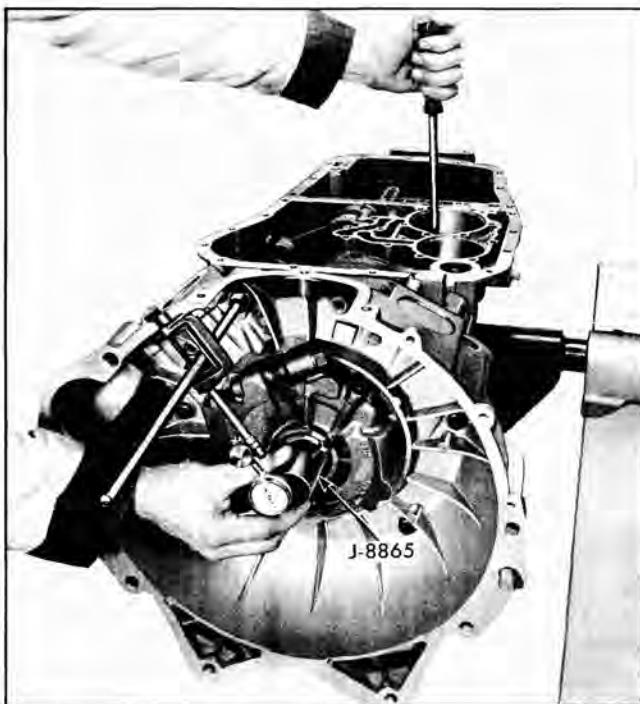

Fig. 131 Tool Set-Up for End Play Check
- b. Install dial indicator support J-6126 into remaining hole in transmission case (Fig. 131).